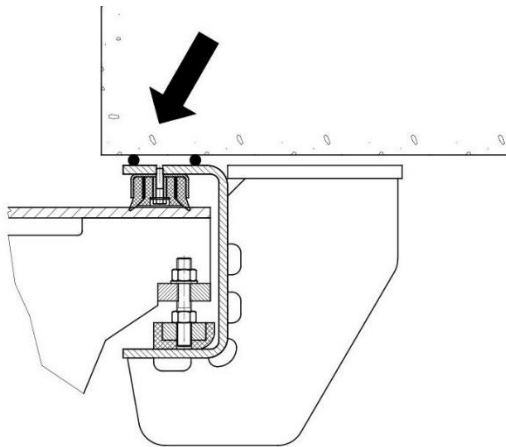

Fig. 4
- Prior to final fixation, pull frame slightly away from the wall in order to place two rows of sealant (according to supplier's instructions) behind the frame and transverse seal up to the max. height of water head, respectively to the transverse seal (Fig. 4 - 7). If bottom seal is bolted, sealant shall also be placed there.